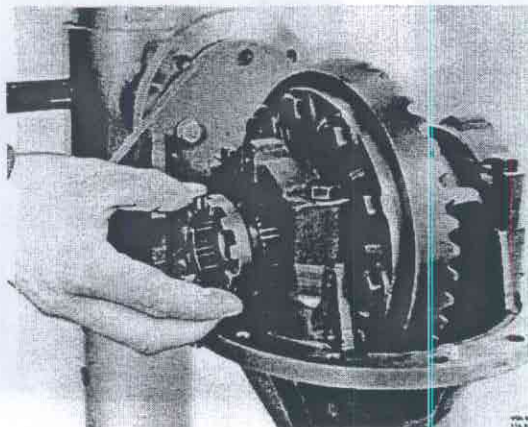

Fig. 46-74. Fitting the flange sleeve
20. Fit the flange with counterhold 2837. Press on the flange with 1845, Fig. 46-74.
7. Fit the flange for the differential lock, Fig. 46-74. Fit the washer and the lock ring. Remove the carrier from the fixture.